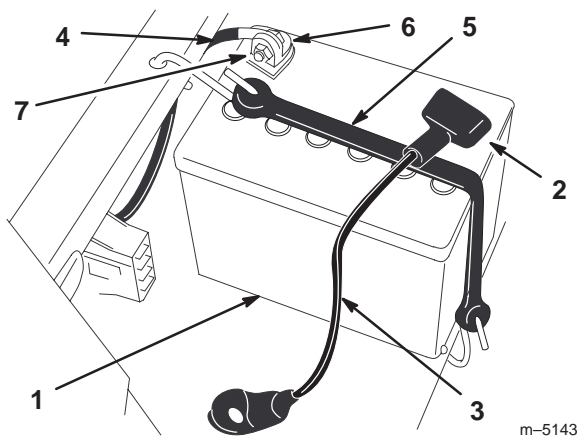

Figure 31
3. Disconnect the negative (black) ground cable from the battery post (Fig. 31).
4. Slide the rubber cover up the positive (red) cable. Disconnect the positive (red) cable from the battery post (Fig. 31).
5. Remove the battery hold-down (Fig. 31) and lift the battery from the battery tray.
1. Position the battery in the tray with the terminal posts away from the control panel (Fig. 31).
4. Secure the cables with 2 bolts (1/4 x 3/4 in.), washers (1/4 in.), and nuts (1/4 in.) (Fig. 31).
6. Secure the battery with the hold-down (Fig. 31).